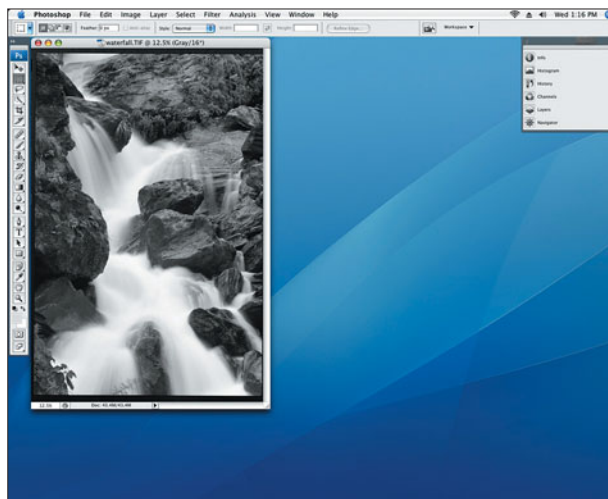

Figure 5.16 In the Standard Screen Mode, an image opens with document information along the top and bottom of a moveable window.
The Screen Mode (F) cycles through different viewing options (see Figures 5.16 to 5.20). CS3 introduces a new Maximized Screen Mode and also sets screen modes on a global, rather than per-document basis. If you have five image windows open and change the mode on any single image, the rest will automatically change as well. All of the modes have backgrounds that are preset to middle gray. But each mode can be set individually to display a separate background color by right- or Ctrl-clicking the background area.